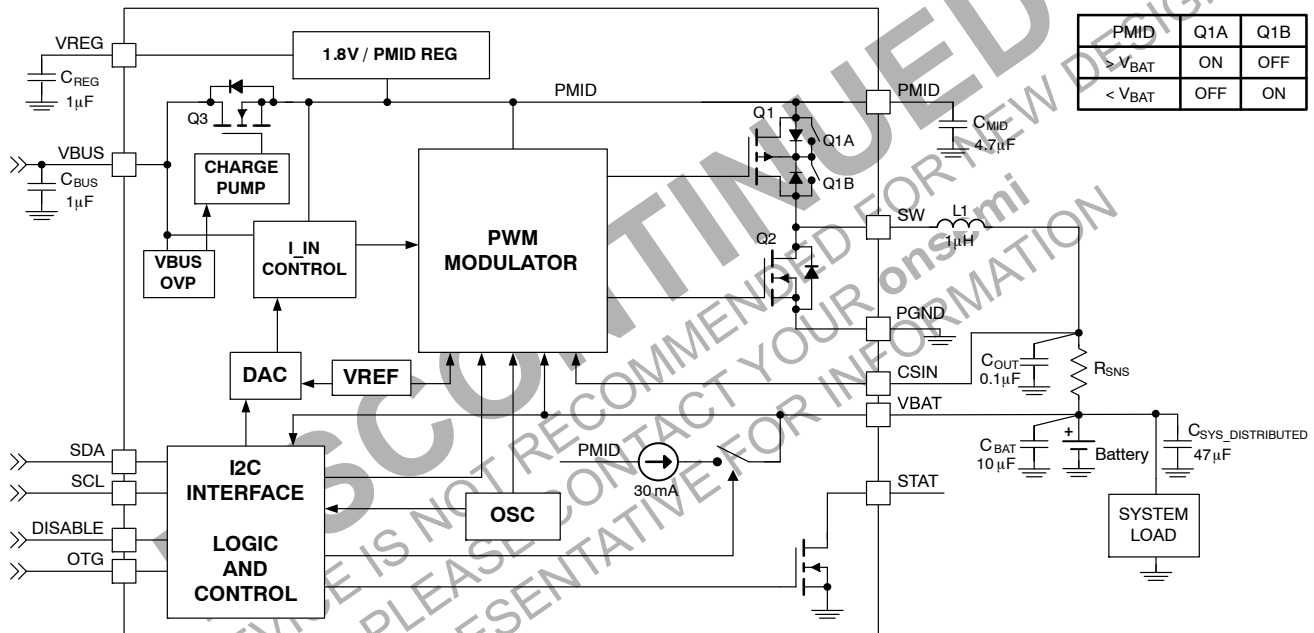

Figure 2. IC and System Block Diagram
1. A 10 V rating is sufficient for C_{MID} because PMID is protected from over-voltage surges on VBUS by Q3 (Figure 2).